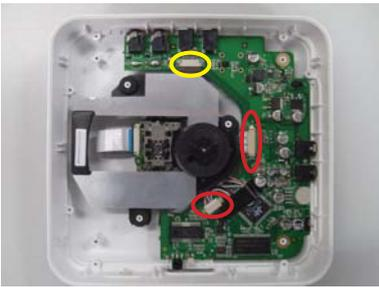

Fig.2
2. Broken connections to remove the loading ass'y as Fig.2.